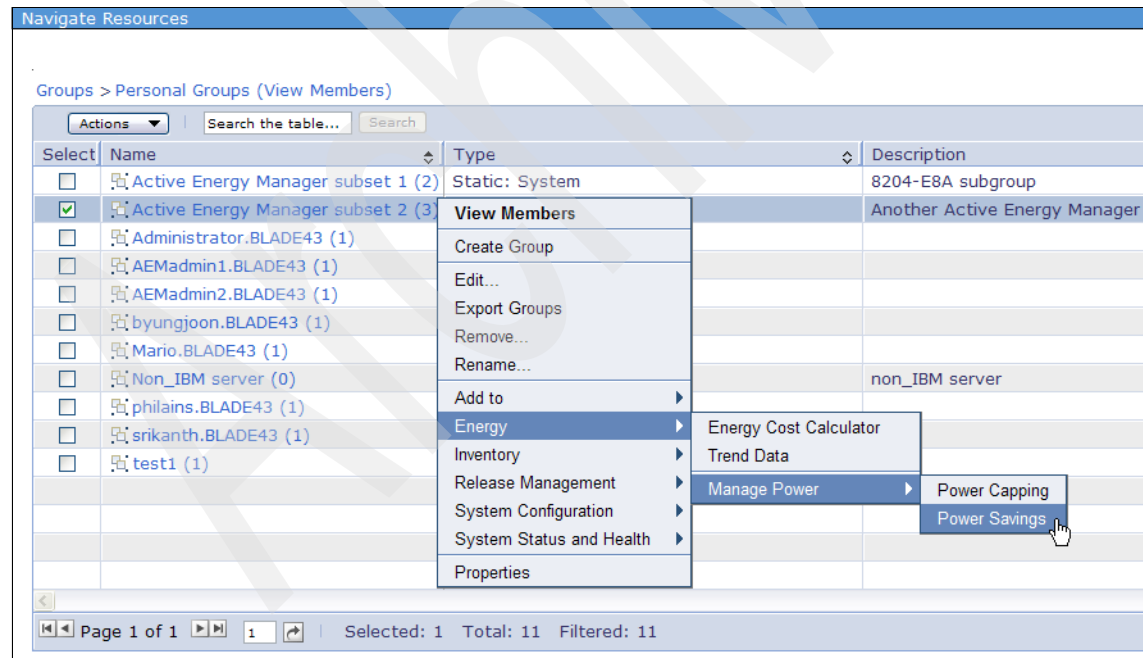

Figure 7-13 Setting power savings for a group of power managed systems - 1
2. Right-click a group of Active Energy Manager resources, and select **Energy → Manage Power → Power Savings** (Figure 7-13).